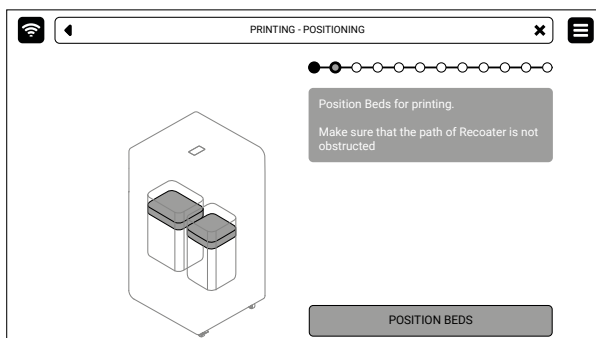

Fig. 6.5 **POSITIONING BED** screen.
4. Press **POSITION BEDS** to begin the positioning process of the Beds (fig. 6.5).